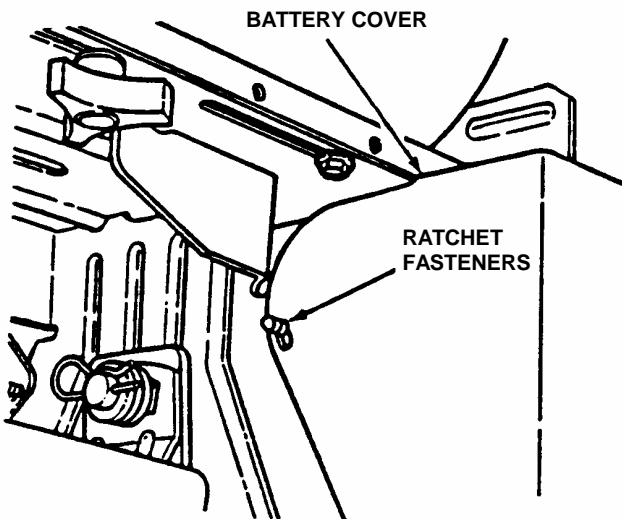

FIGURE 4.17
1. Carefully pull each side of battery cover away from ratchet fasteners and remove cover. See Figure 4.17.
Cables must be connected to battery terminals in the proper position as show in Figure 4.17. DO NOT attempt to charge battery while installed on the Rear Engine Rider. DO NOT use "BOOST" chargers on the battery.
5. Reinstall battery cover. See Figure 4.17.
11. Reinstall battery cover. See Figure 4.17.